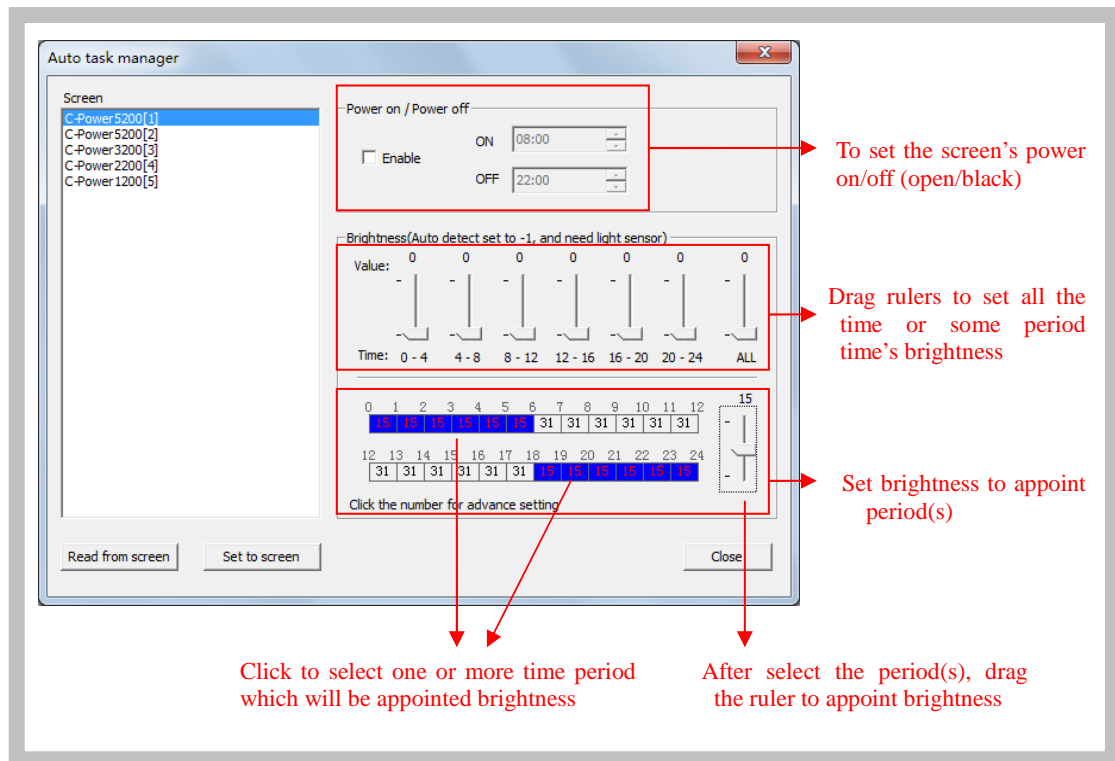

Figure46 Auto task manager
- 1) Click "Setting" – "Auto task" in menu. The dialog box of "Auto ask manager" pops up, as shown in Figure46.